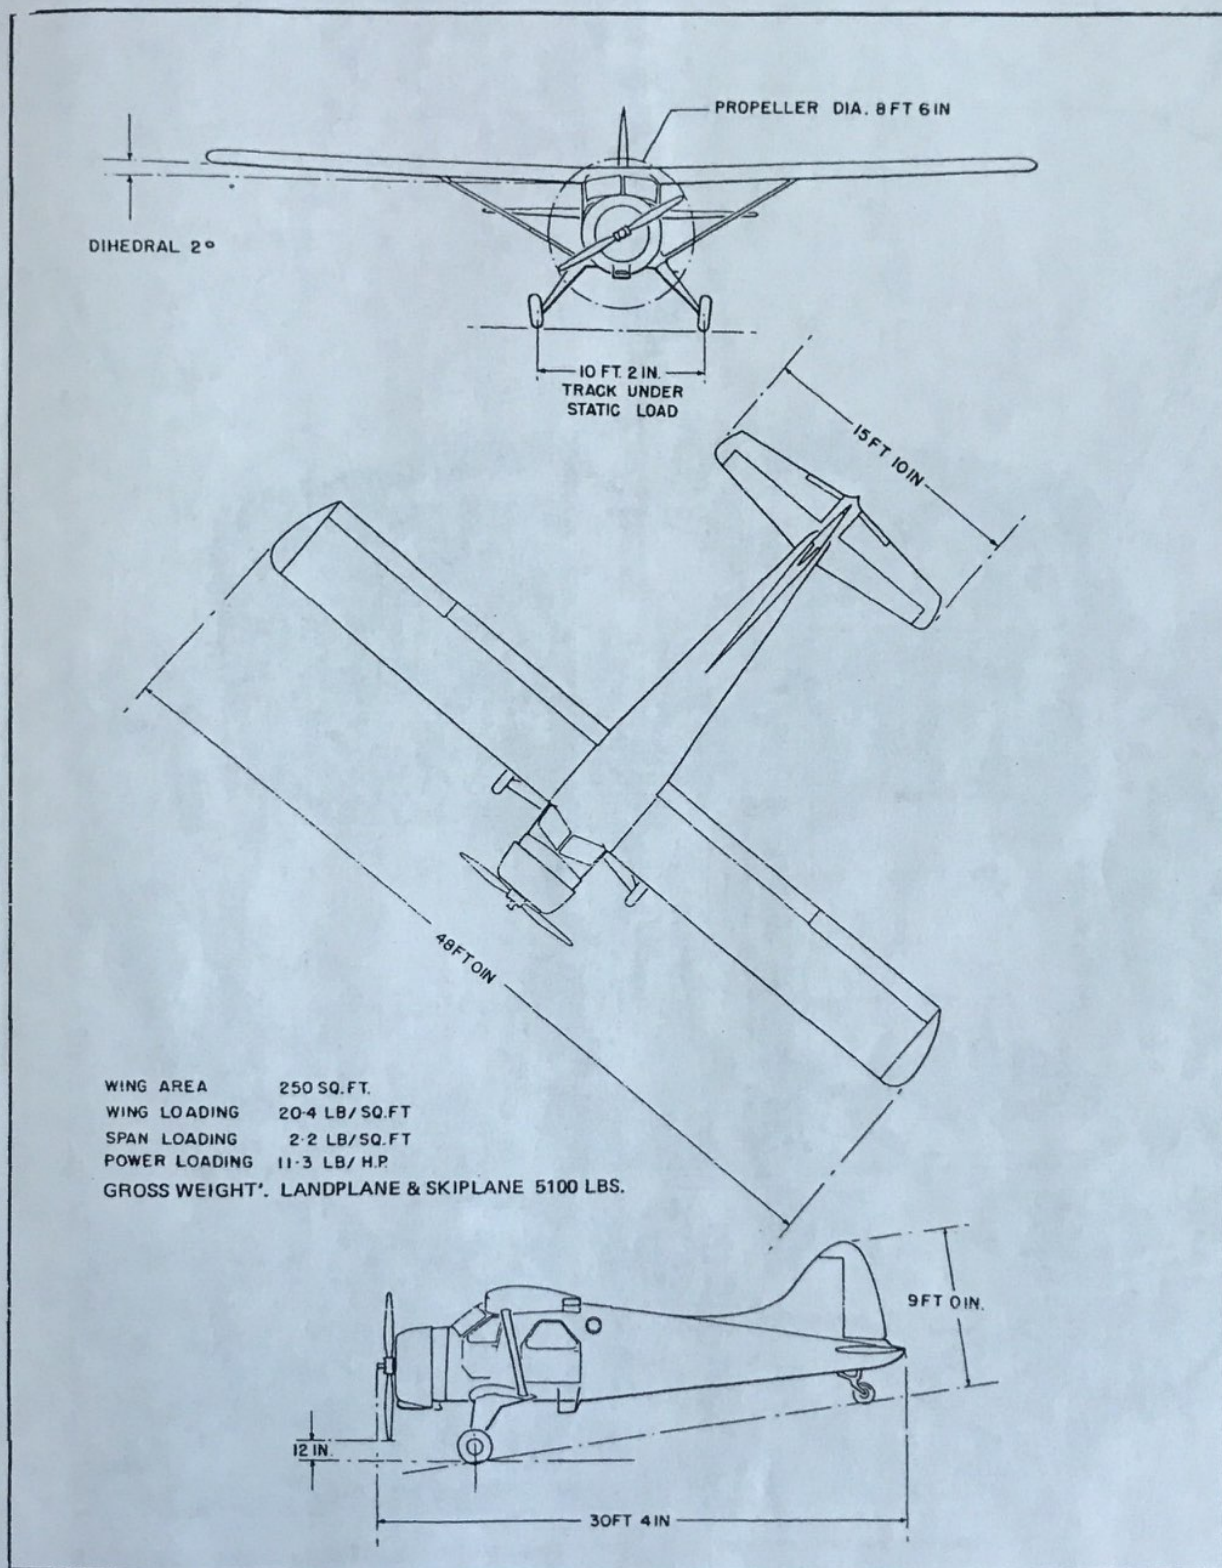

FIG 1-3 THREE VIEW DIMENSIONAL DIAGRAM - LANDPLANE
1.2 DIMENSIONS See Figure 1-3.
1.3 GROSS WEIGHT See Figure 1-3.